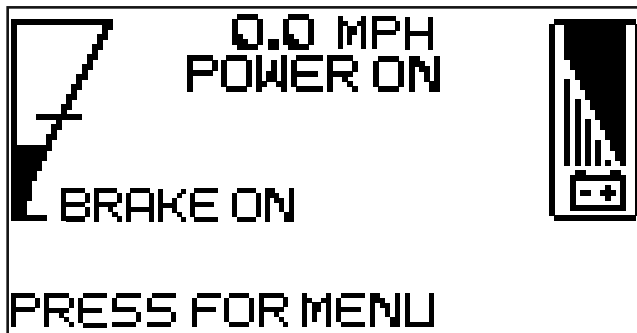

Figure 5-7
- When the rider starts the screen will display the power usage indicator, battery level indicator, rider speed and "POWER ON" will display on the screen. See Figure 5-7.